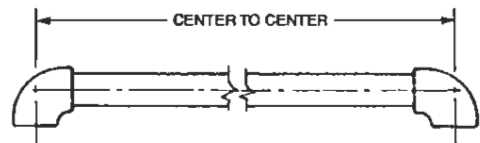

FIGURE 105
5. Pipe lengths are measured from center of fitting to center of fitting. See Figure 105.